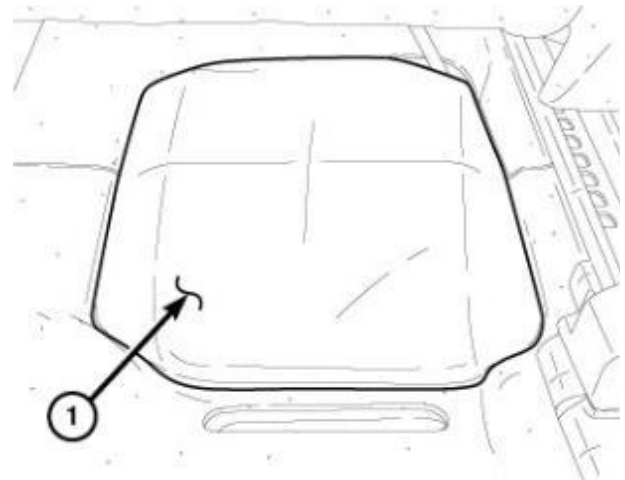

Figure 21 – Battery Cover
3. Remove the battery cover (1) (Figure 21).